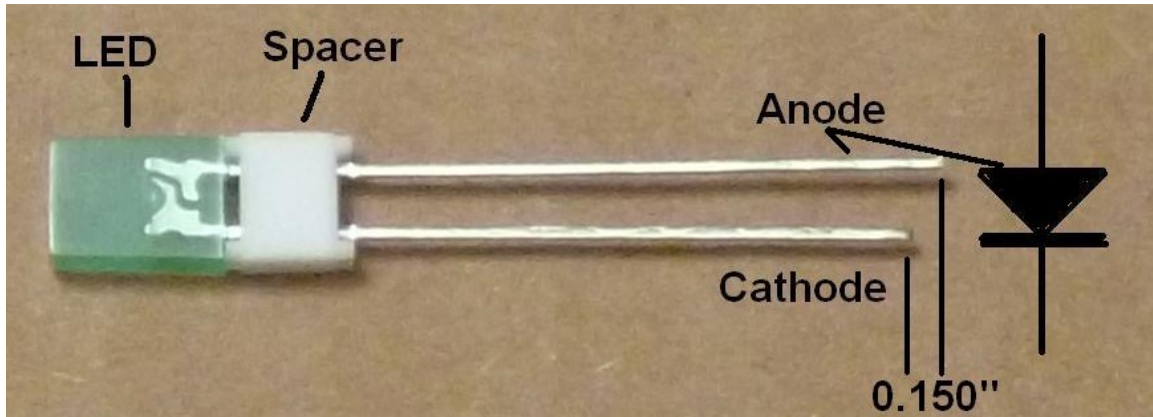

Figure 27-LED with white spacer added
1. Mate each of the 15 LED's with a plastic spacer as shown in Figure 27. These spacers make it easy to assure uniform height above the PCB.
- b. If the leads are cut, you can see the difference in the shape of the metal lead-frame inside the green plastic of the LED (Figure 27).